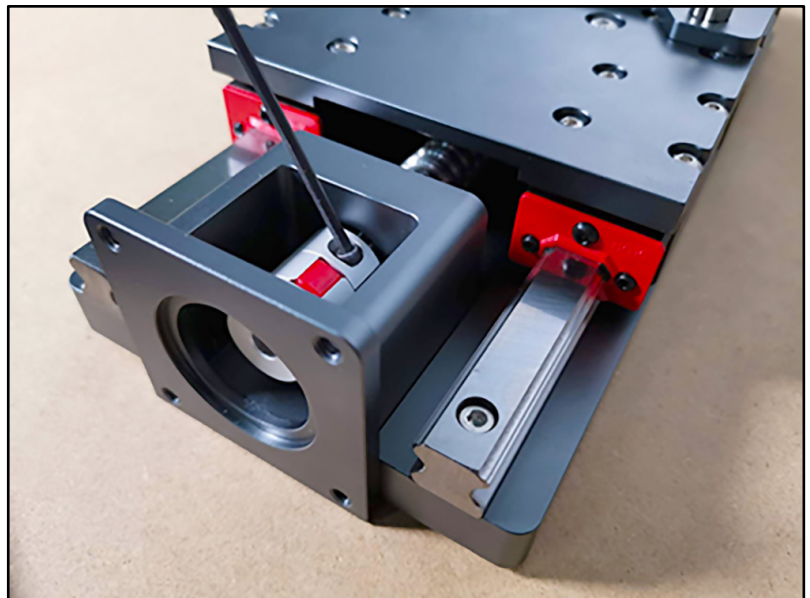

Figure 4
- M5 x 10mm Screw (4)
2. Tighten the lower side of the coupler as shown in **Figure 4**.